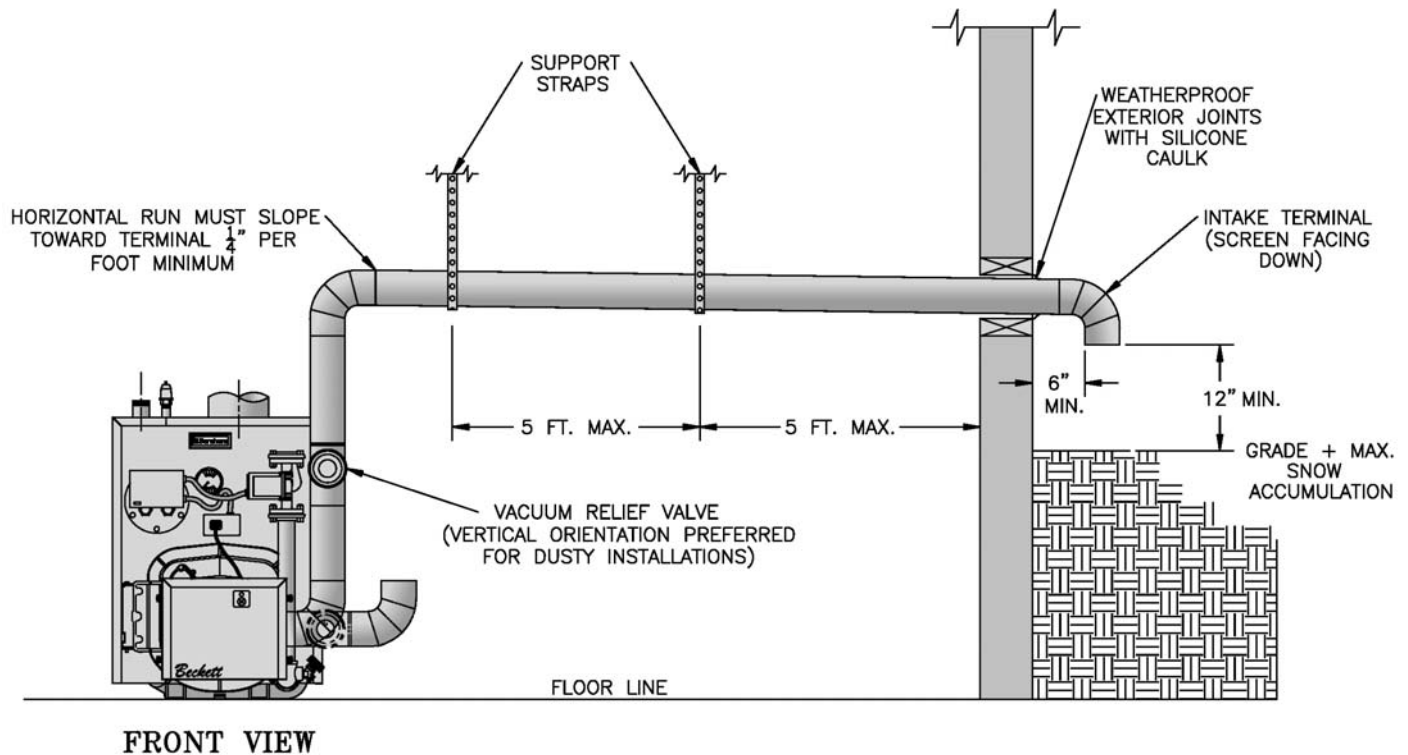

Figure 18: Optional Air Intake Piping Installation - Only Available with Beckett Burner
INSTALLATION - All air for combustion can be supplied directly to the burner from outdoors (**ONLY AVAILABLE WITH BECKETT BURNER**). See Figure 18.
2. After determining location, cut a hole in the wall to accept 4 inch air intake pipe. See Figure 18.
4. Mount the Vacuum Relief Valve Tee Assembly (Part Number 8116268 included with Kit) or 90° elbow into the burner inlet ring. See Figure 18.
- a. Secure with at least three (3) sheet metal screws evenly spaced around the burner inlet ring.
5. Install remainder of air intake, securing each joint with at least three (3) sheet metal screws evenly spaced.
6. Install air intake terminal. See Figure 18.